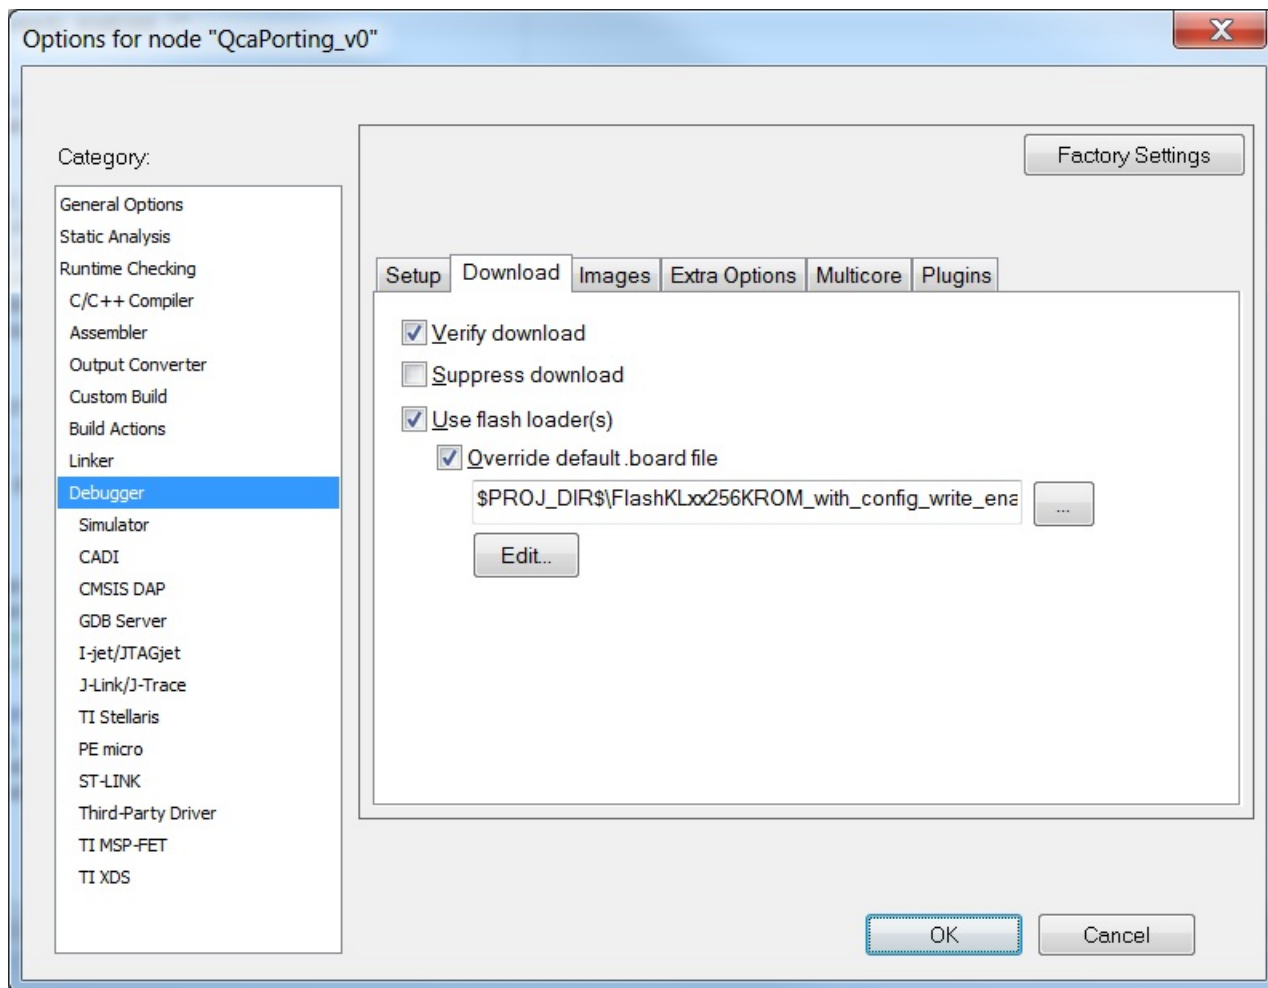

Figure 31. Include flash loader
- In the 'Debugger' category, select a debugger tool, then click the 'Download' tab. Add the specific flash loader as in Figure 31 to avoid errors during programming at specific memory region (0x40C - 0x40F) in FRDM-KL43Z.